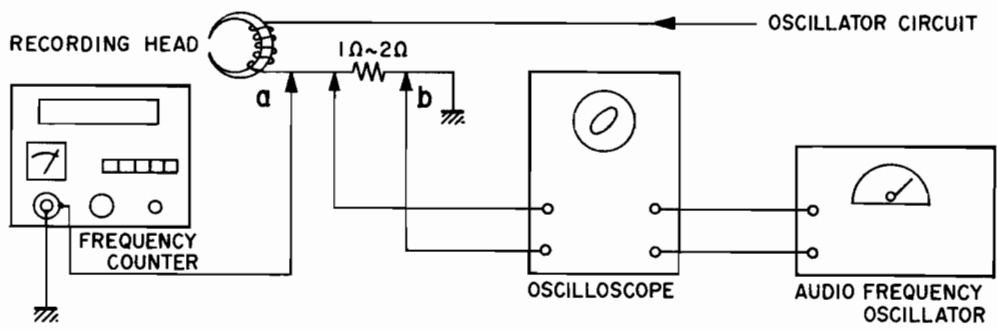

Fig. 27
2. RECORDING BIAS FREQUENCY ADJUSTMENT (See Figs. 27 and 28).